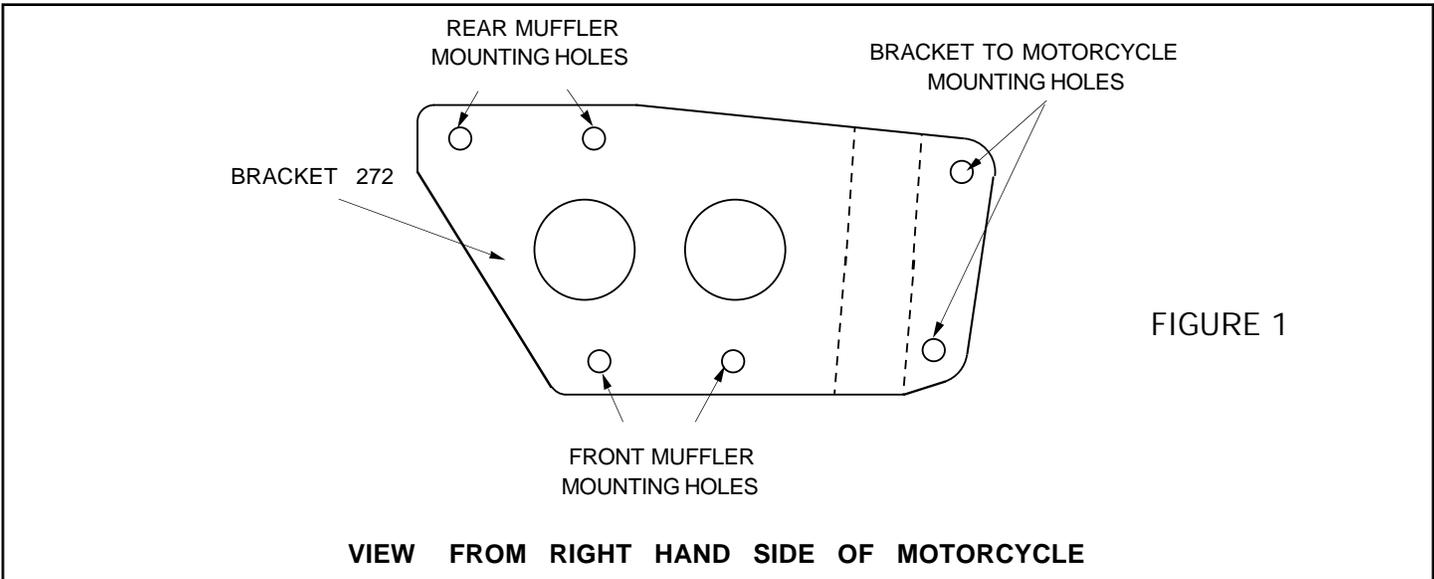

FIGURE 1
1. Install the V&H muffler mounting bracket (stamped 272) to the frame using the stock hardware and mounting location. Refer to figure 1
3. Slip the front muffler assembly over the stock head pipe. Slide one dog bone shaped nut plate (supplied) under the bracket that is welded to the backside of the muffler. Attach the muffler to the mounting bracket using two of the 5/16" flange head bolts (supplied), but leave them loose at this time. Refer to figure 1.
5. Slide one dog bone shaped nut plate (supplied) under the bracket that is welded to the backside of the rear muffler. Attach the muffler to the mounting bracket using two of the 5/16" flange head bolts (supplied), but leave them loose at this time. Refer to figure 1.